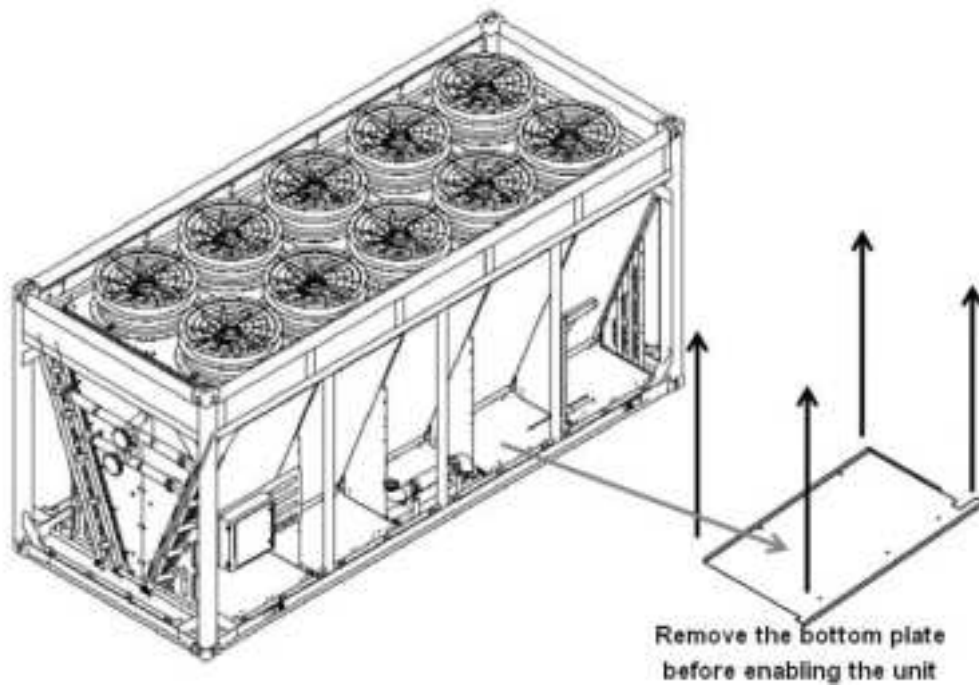

Figure 6-5 Remove bottom plate and fasteners for inlet and outlet pipe components of the dry tower
- Remove the bottom plate and fasteners for the transportation of the inlet and outlet pipe components of the dry tower, as shown in Figure 6-5.